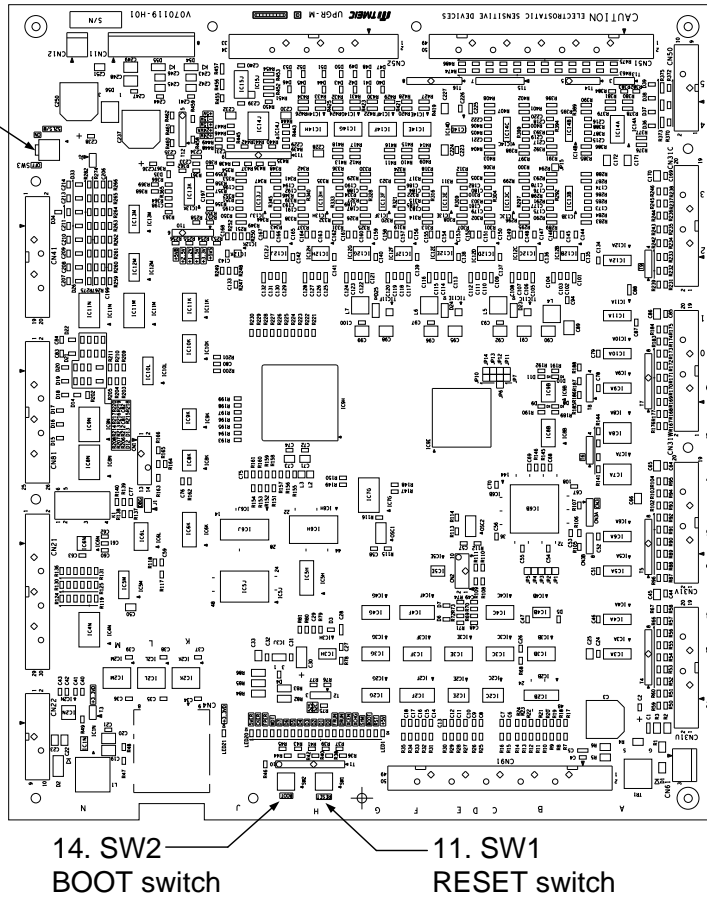

Figure 3-13 MAIN PCB UPGR-M
Description of Figures Figure 3-9 to Figure 3-13
4. **Main PCB UPGR-M (Figure 3-13):**
- (11) SW1 (RESET switch)
- (14) SW2 (BOOT switch)
- (15) SW3 (52L S/W switch)